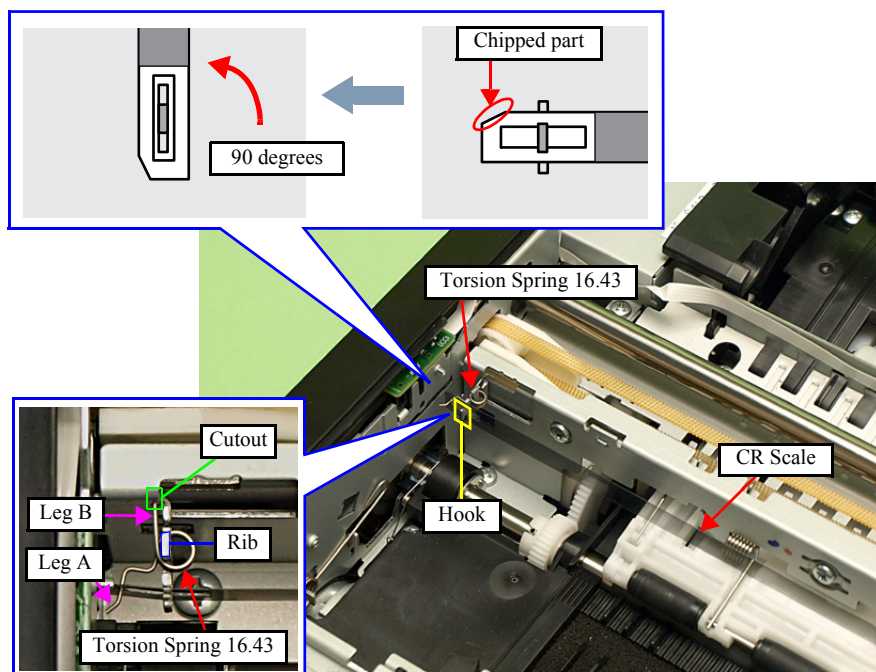

Figure 8-21. Removing the CR Scale (3)
- Attach the CR Scale to the hook on the left of the printer with the chipped part upward. (See Fig. 8-21.)
- When installing the Torsion Spring 16.43, follow the procedure below. (See Fig. 8-21.)